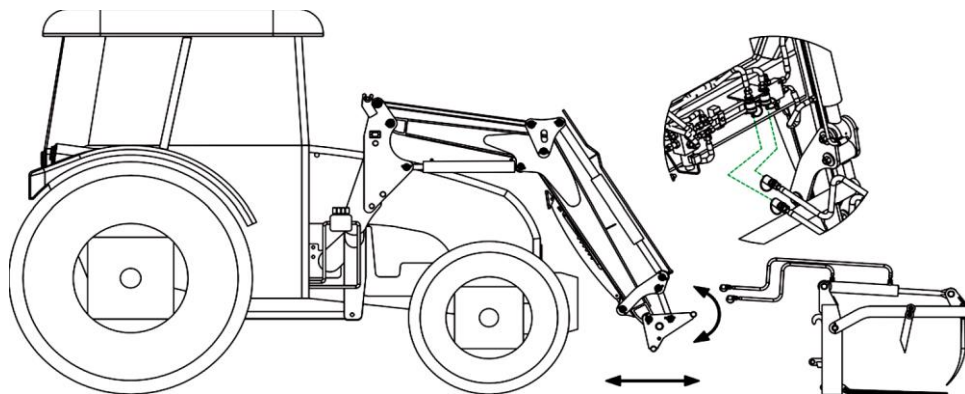

Figure 17 Installation of a tool which requires connection to the Loader hydraulic system
- Drive up to the tool (1) placed on solid level and even ground
- Lower the loader to move the coupling frame (2) below the hitch hooks of the tool (1)
- Lower the coupling frame (2) downwards
- Place the tool hitches (1) in the coupling-frame guides (2)
- Connect the hydraulic lines of the tool to the hydraulic system of the cylinder as shown in Fig. 17.